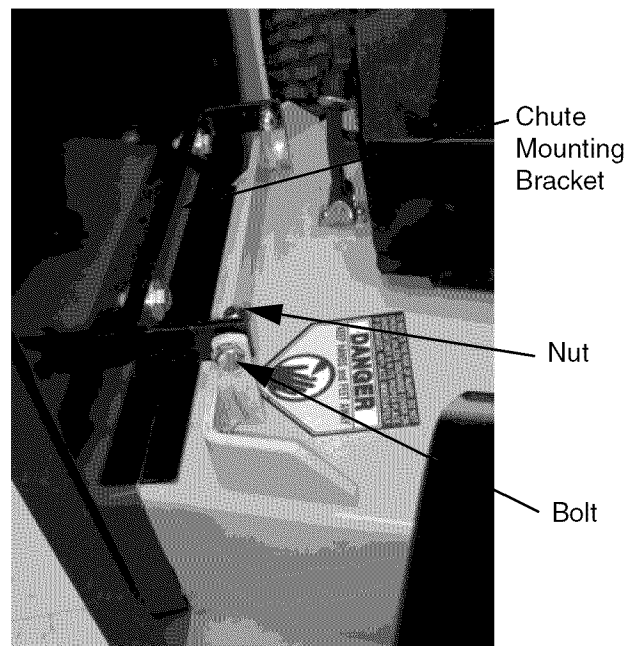

Figure 10
- Using (2) 3/8-16 x 1.25 bolts [O] and (2) 3/8-16 Nylock nuts [R], attach backing plate [F] to the unit as shown below in Figure 10.
2. Empty the bag when 3/4 full. To remove the grass bag, lift up on the right and left latches to release the top part of the grass bag. Then using the handles, tilt the catcher assembly toward you and lift up. This releases the lower portion of the Bag Frame from the Backing Plate see Figure 10 on page 6.